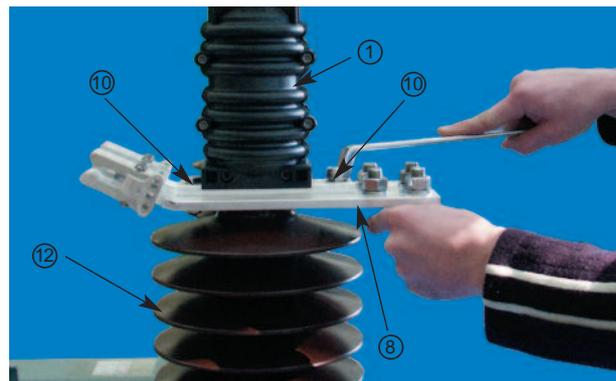

Fig. 19: Removal/Installation of arcing chamber
- Release fastening bolts M 10x35 (10) and remove arcing chamber (1) (Fig. 19)
- Install new arcing chamber (1) in switched-on condition on the contact plate with contact finger (8) using the two fastening bolts M 10x35 incl. washers and lock washer and tighten (Fig. 19) (tightening torque: 32 Nm)